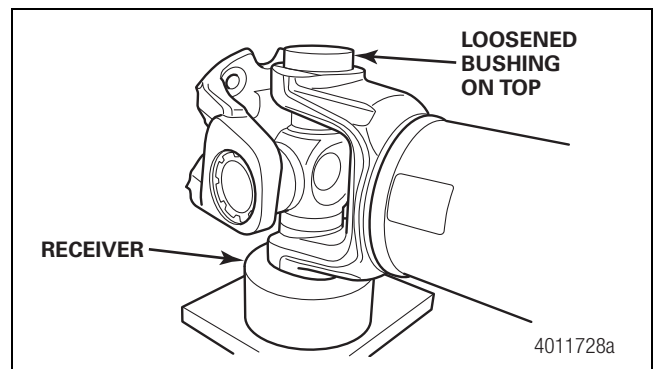

Figure 4.48
5. Rotate the universal joint 180 degrees to the other end. Figure 4.48.